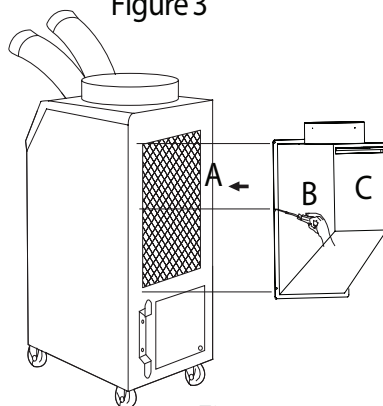

Figure 5
3. Install "B" which contains "C" by using driver with enclosed bolts (6ea.) as Figure 5.